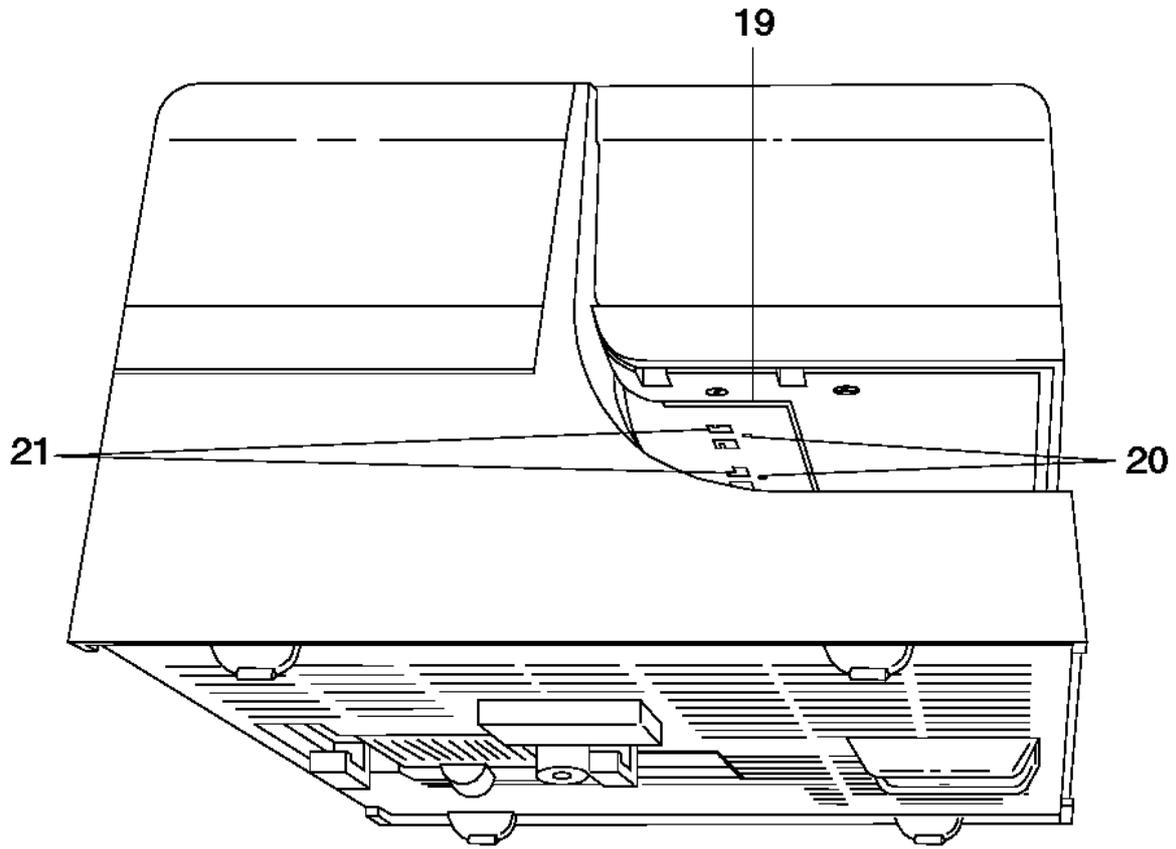

Figure E-22. Part 8. Installing the Document Insert Guide
38. Set the printer as shown in Figure E-22.
39. To reinstall the document insert paper guide (19), insert a piece of paper into the document insert station.